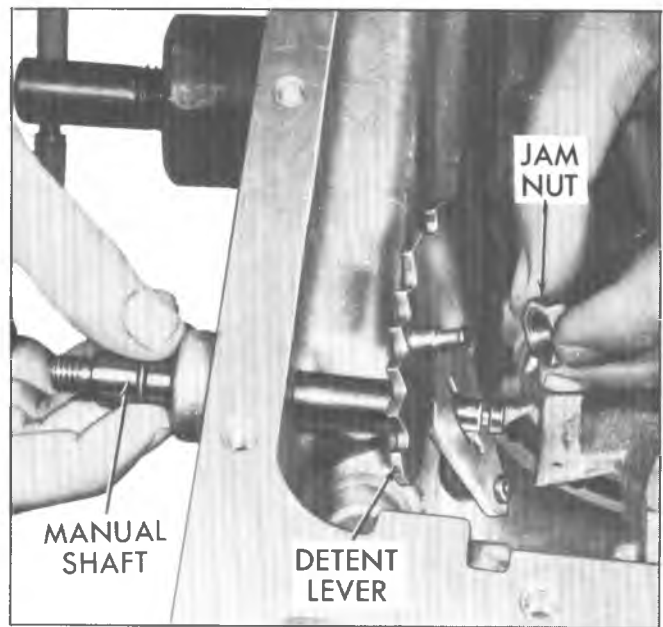

Fig. 18T--Removing Detent Lever and Jam Nut from Manual Shaft
3. Remove manual shaft and jam nut from case (fig. 18T). Do not lose jam nut as it becomes free from manual shaft.